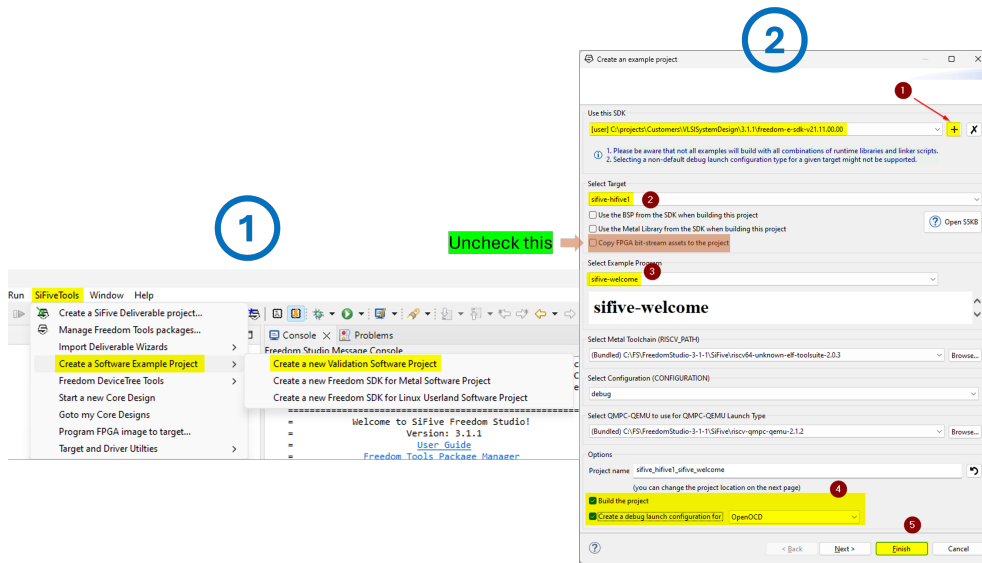

Figure 9: Create New Software Project
- Create a new Validation Software Project. Select the SDK, sifive-hifive1 target, example and Create a debug launch config as shown in Figure 9